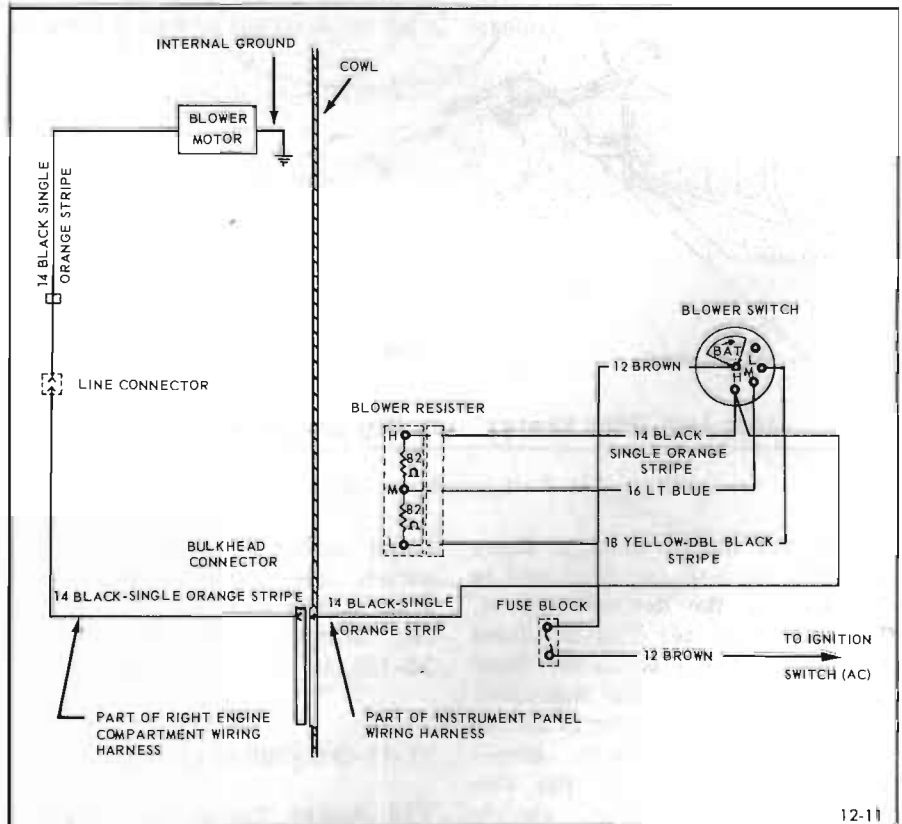

Figure 12-11—Wiring Diagram of Heater System 45-46-48000 Series
3. **Fan Lever** - This control operates the blower motor at three blower speeds. Movement of the control to the right will respectively provide low, medium and high blower motor speeds (see Figure 12-11).